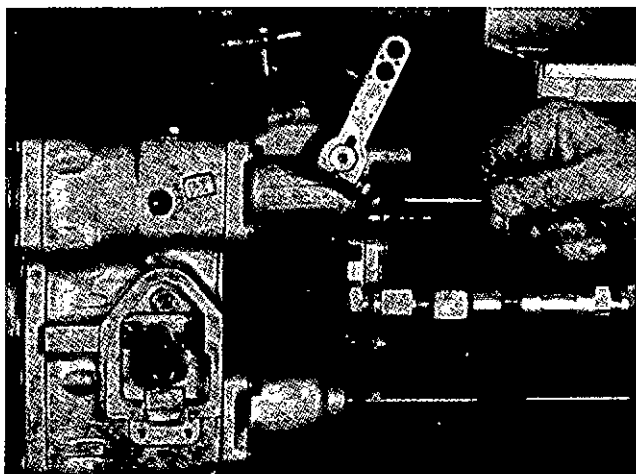

Fig. 10-33, (F5341). Set the VS idle speed.
4. Adjust the rear VS governor throttle screw to the psi in the calibration, Fig. 10-33.